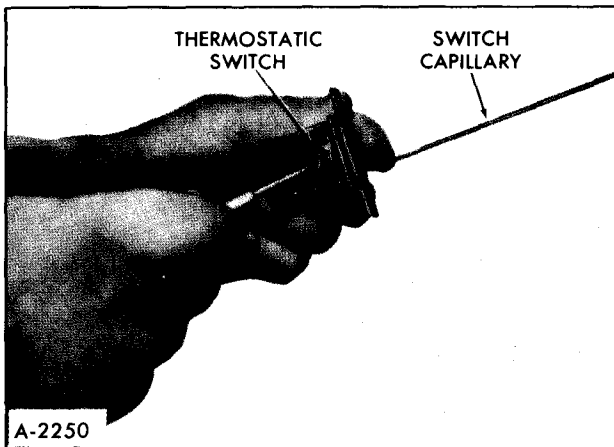

Figure 30—Adjusting Thermostatic Switch
5. If the outlet temperature was less than the prescribed temperature at the end of each cooling cycle, turn the adjusting screw a partial turn counter-clockwise (figure 30). If the outlet temperature was more than prescribed temperature, turn the adjusting screw clockwise.